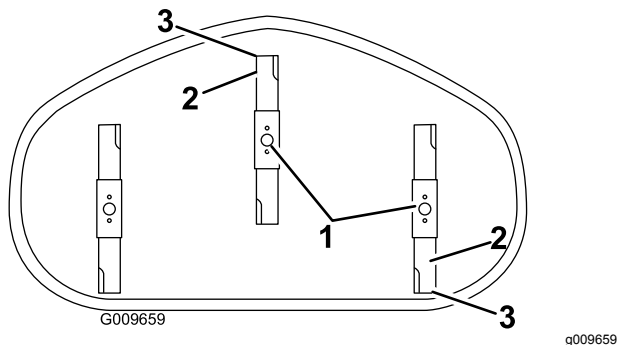

Figure 52
4. Carefully rotate the blades so they are facing front to rear (Figure 52).
5. Measure from the tip of the front blade to the flat surface, and the tip of the rear blade to the flat surface (Figure 52).
9. After adjustment, check the front-to-rear slope again, continue adjusting the nut until the front blade tip is 1.6 to 7.9 mm (1/16 to 5/16 inch) lower than the rear blade tip (Figure 52).